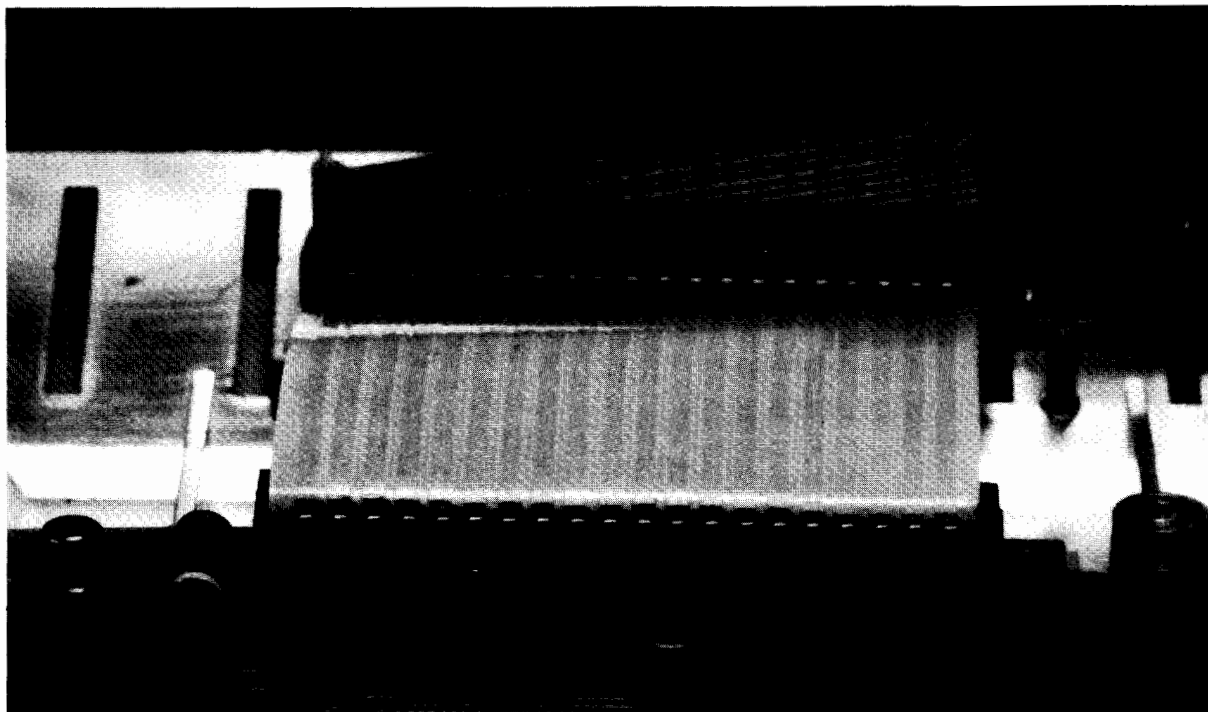
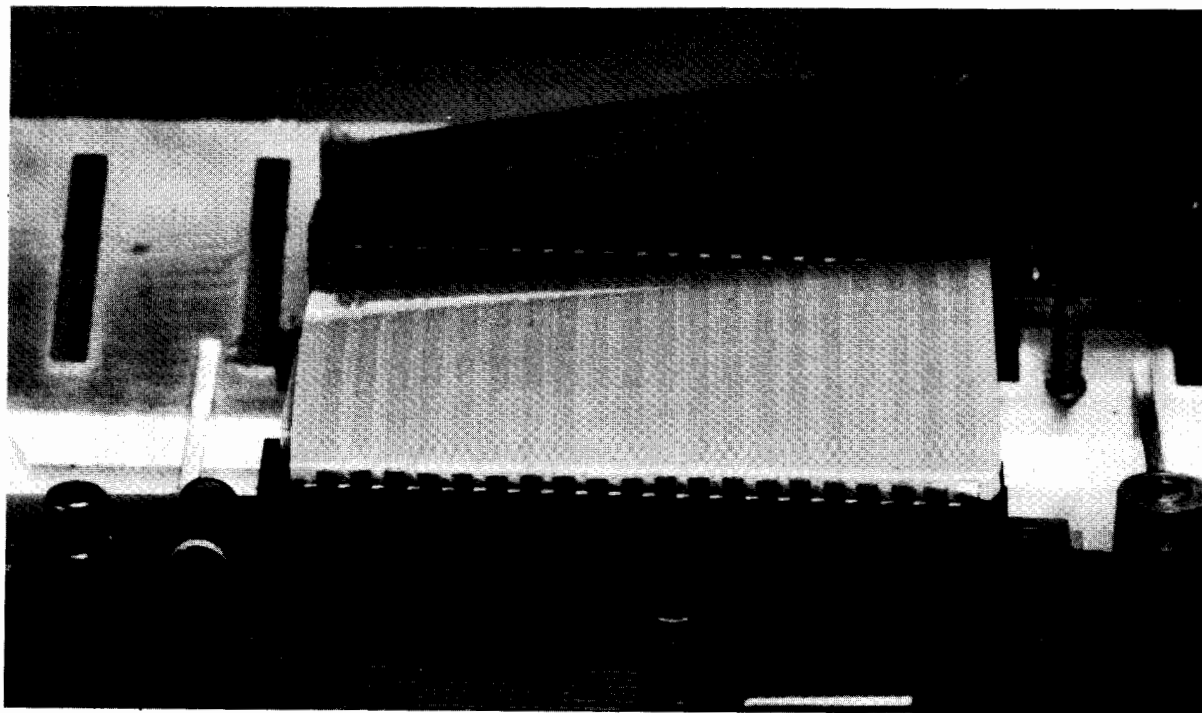
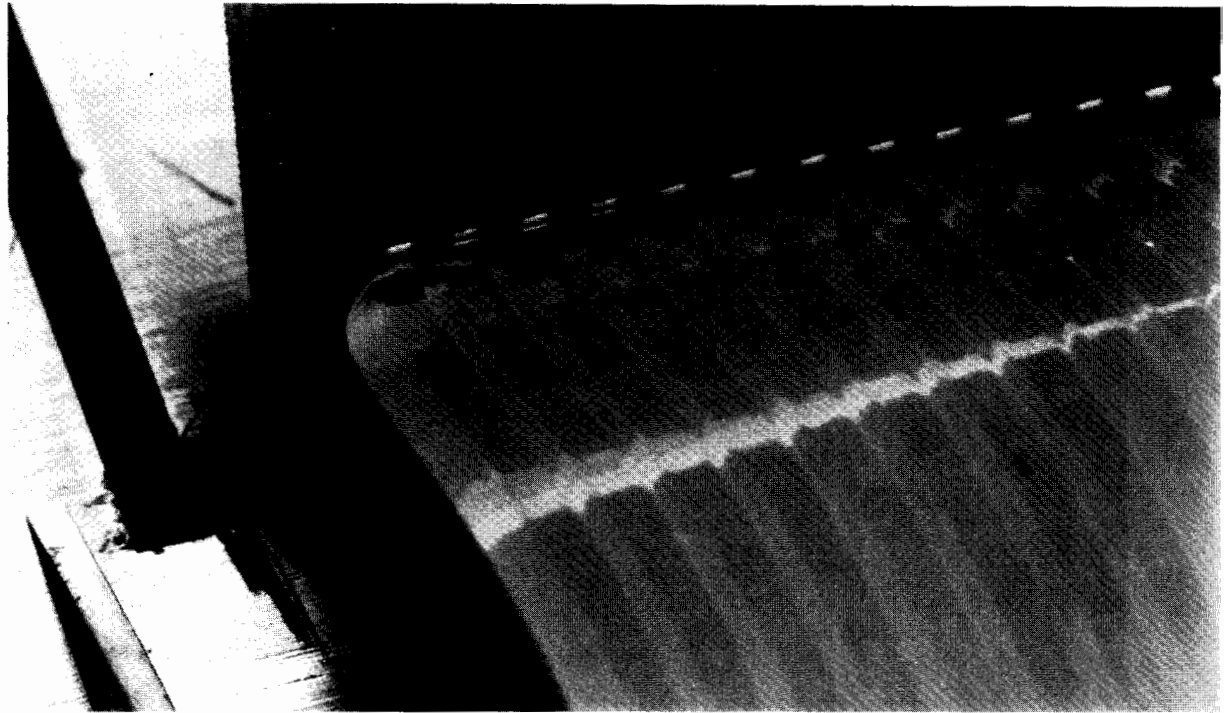

Figure 3-3. Cable Connected Properly
Figure 3-4. Cable Misaligned
Figure 3-5. Cable Connected With Edge Folded Over
- c. Make sure that the cable contacts are properly aligned with the connector contacts and that neither edge of the cable is folded over. Figure 3-3 shows a cable connected properly. Figure 3-4 shows a cable misaligned, and figure 3-5 shows a cable connected with an edge folded over.